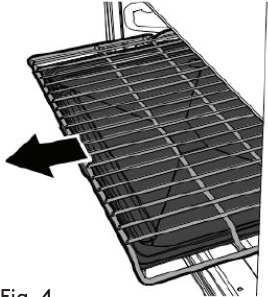

Fig. 4
- ▶ Take out all removable parts. (Fig. 4)